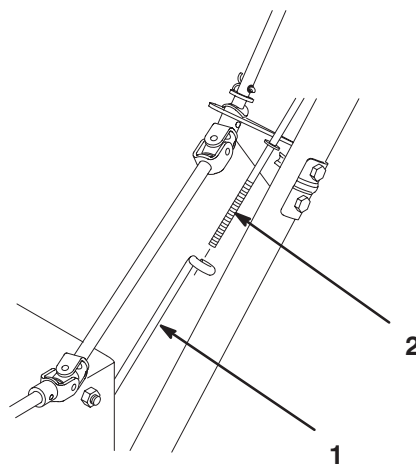

Figure 4
3. Hold the left side of the handle assembly in the installation position and insert the upper traction rod through the loop in the lower traction rod (Fig. 4).